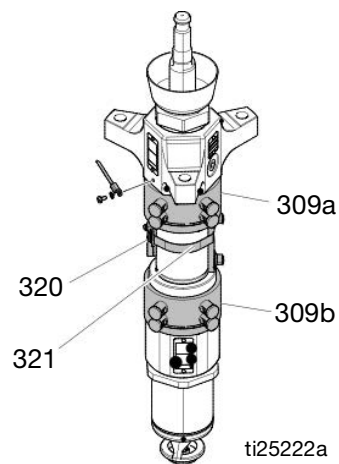

FIG. 29
13. Tightly strap the Air Motor to the tie bar with a cable through the Air Motor lift ring and around the tie bar. See FIG. 29, page 52.
14. Loosen u-bolts (X) from Platen lift rods.
15. Remove nuts (F) from Heated Pump/Air Motor stand-off rods at the Pump end.
16. Remove nuts (Z) and bolts holding cable track to Air Motor support plate.
18. Remove nuts (N) from follower lift rods.
19. Fully loosen Pump rod coupler to the Air Motor rod (G).